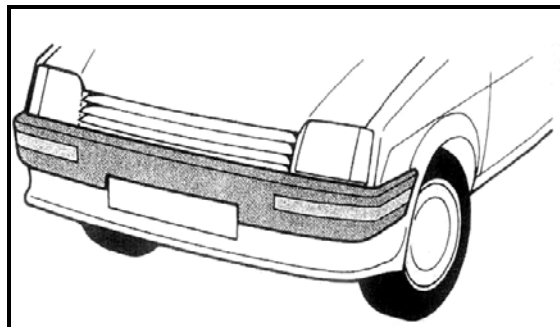

FIGURE 3.4
- 3.4 FIGURE 3.4 below shows a car bumper made from carbon fibre. State TWO properties of carbon fibre which make it suitable for use in the manufacturing of bumpers.